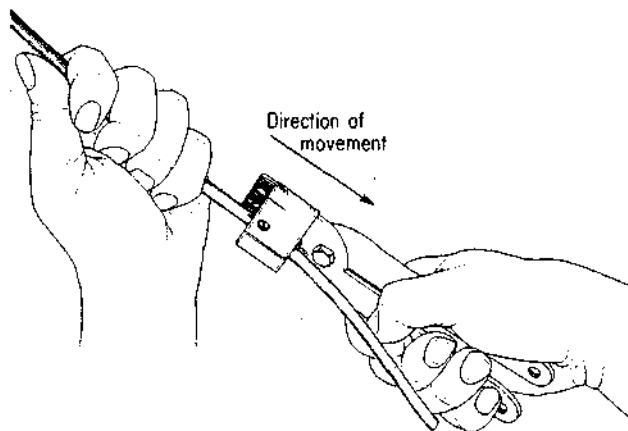

Fig. 2—Slitting C Rural Wire
3.01 To slit C rural wire, open splitter and place wire in groove of guide block opposite slitting blade; close splitter, then pull along wire as shown in Fig. 2.